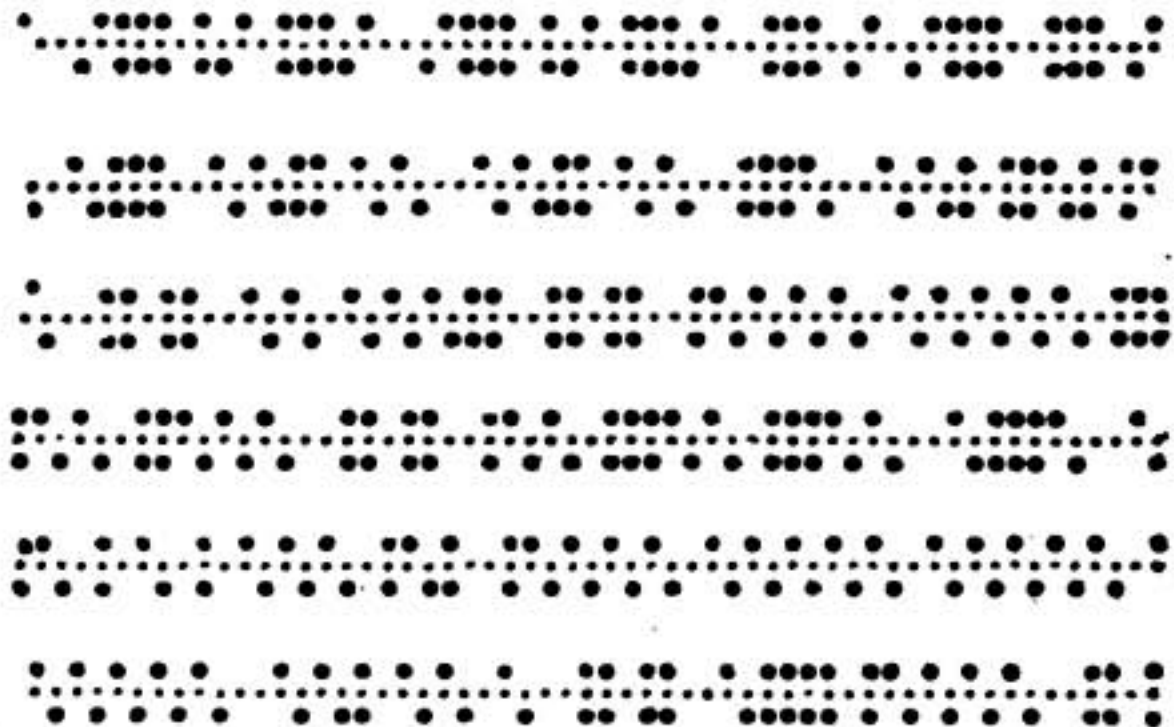

Fig. 1. Portion of Wheatstone Tape used for transmitting 1000 G.M.T. meteor message on June 10th from G.F.A. Air Ministry 1680 Av.
(2) Forecasts are perhaps of wider interest than coded meteors and are usually sent out in plain language. The Belgian Meteorological Office transmits daily at noon (G.M.T.) from Uccle, call sign HS, a forecast for Belgium and Western Europe in French. The report is issued specially for amateurs, and is therefore transmitted very slowly and repeated. A wavelength of 1,500 metres is used and the message usually lasts about 20 minutes. The Air Ministry also broadcasts daily at 0915 (9.15 a.m. G.M.T.) and 2000 (8 p.m. G.M.T.) on 1,400 metres C.W., a general forecast in plain language based upon observations made at 7h. and 18h. respectively. These messages are sent out from the Air Ministry (G.F.A.) through a Wheatstone tape machine and the rate of sending is about eight words per minute. (See Fig. 1.)
(3) The simplest form of crystal detector
Fig. 1. Stations supplying Time and Weather Reports, (1) Stations issuing Meteorological Reports marked \bullet , (2) Stations issuing Time Signals marked T. Principal Steamship Routes marked and long-distance Aeroplane Flights marked ———.